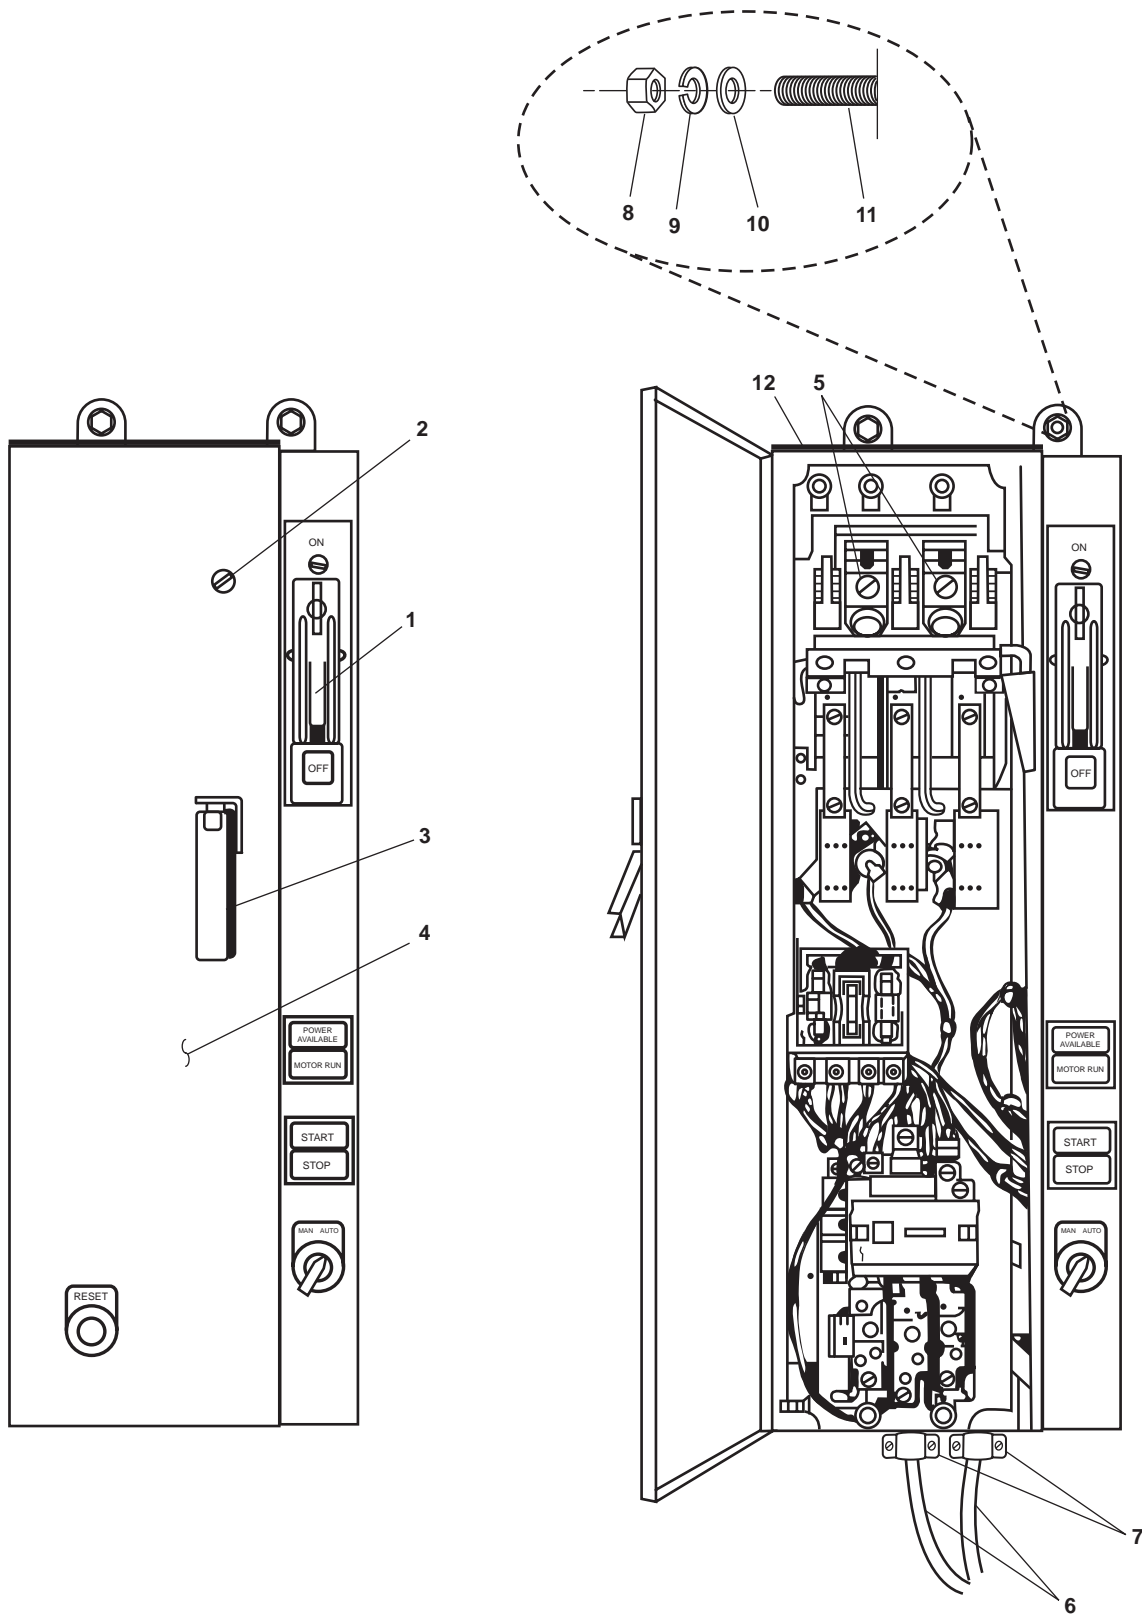

Figure 1. Type 3 Motor Controller
1. Set to OFF the switch handle (figure 1, item 1).
2. Loosen the motor controller door screw (figure 1, item 2) and turn the handle (figure 1, item 3) to open the door (figure 1, item 4).
3. Use a multimeter to check for voltage at the motor controller terminals (figure 1, item 5). If voltage is present, ensure that the correct circuit breakers are secured, locked out, and tagged out (FM 55-502). If no voltage is present, continue with the procedure.
4. Label and remove the wiring (figure 1, item 6) from the motor controller terminals (figure 1, item 5).
5. Loosen the strain relief clamps (figure 1, item 7), and remove the wiring (figure 1, item 6).
6. Remove the four nuts (figure 1, item 8), the four lockwashers (figure 1, item 9), and the four flat washers (figure 1, item 10) from the studs (figure 1, item 11). Discard the lockwashers.
7. Remove the motor controller (figure 1, item 12) from the studs (figure 1, item 11).
1. Position the motor controller (figure 1, item 12) on the studs (figure 1, item 11), and secure it with the four bolts (figure 1, item 8), four nuts (figure 1, item 8), four new lockwashers (figure 1, item 9), and four flat washers (figure 1, item 10).
2. Route the wiring (figure 1, item 6) through the strain relief clamps and into the motor controller (figure 1, item 12).
3. Connect the wiring (figure 1, item 6) to the terminals (figure 1, item 5) using the labels from step 4 of Removal as a guide.
4. Tighten the strain relief clamps (figure 1, item 7).
5. Close the door (figure 1, item 4) and secure it by turning the handle (figure 1, item 3) and tightening the motor controller door screw (figure 1, item 2).